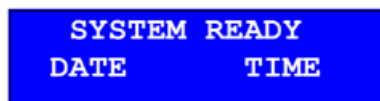

Figure 15: Image of charger display screen showing “SYSTEM READY”.
2. The display screen will show “SYSTEM READY” (Figure 15).